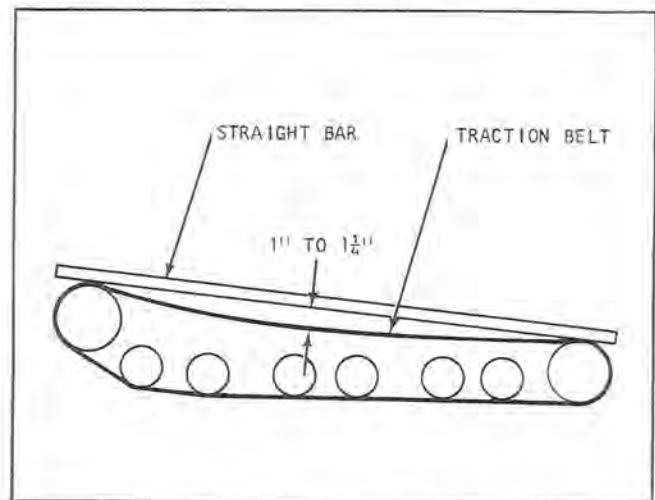

Figure 5
2. Place a sufficiently long, straight bar along the top surface and near the edge of the traction belt (see figure 5). Check for the 1- to 1-1/4-inch sag at the approximate center between the drive and idler shafts. Repeat this procedure on the opposite side and note the difference in belt tension.